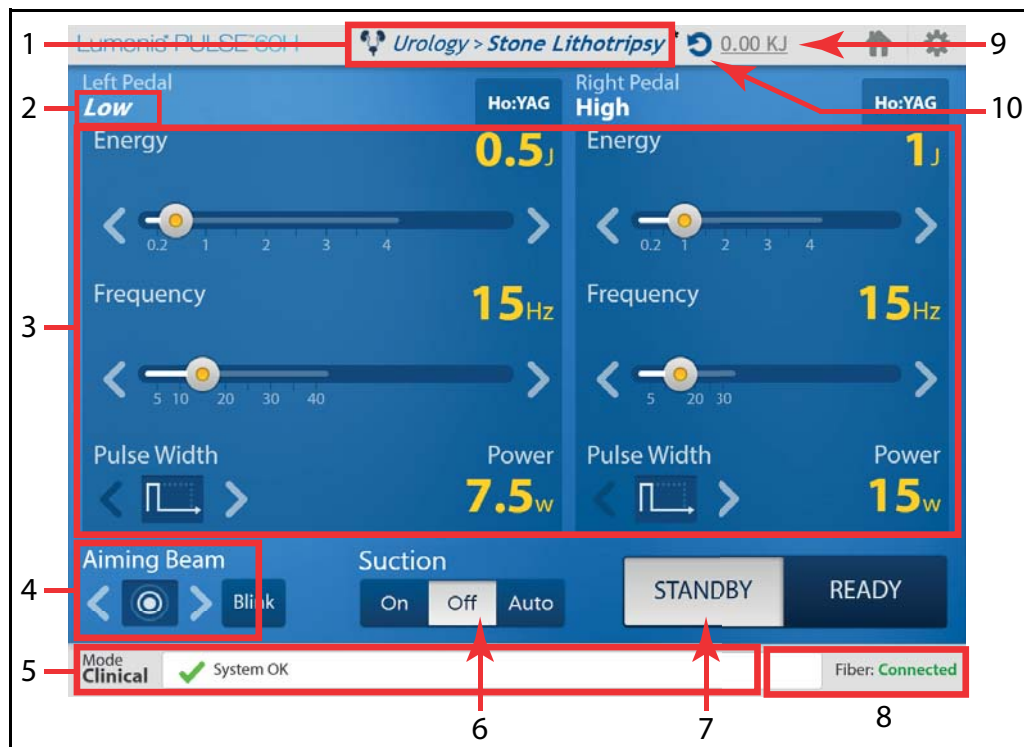

Figure 19: Treatment Beam Delivery via Right or Left Pedals
The elements of the **Treatment Settings** are detailed as follows (the numbered arrows in Figure 19 correlate to the numbered steps below):
9. Total Energy Indicator - This indicator displays the total laser energy applied to the surgical site during the treatment procedure, calibrated in KiloJoules. Pressing the indicator on the main screen (see Figure 19) opens a Reset pop-up (shown on the left).